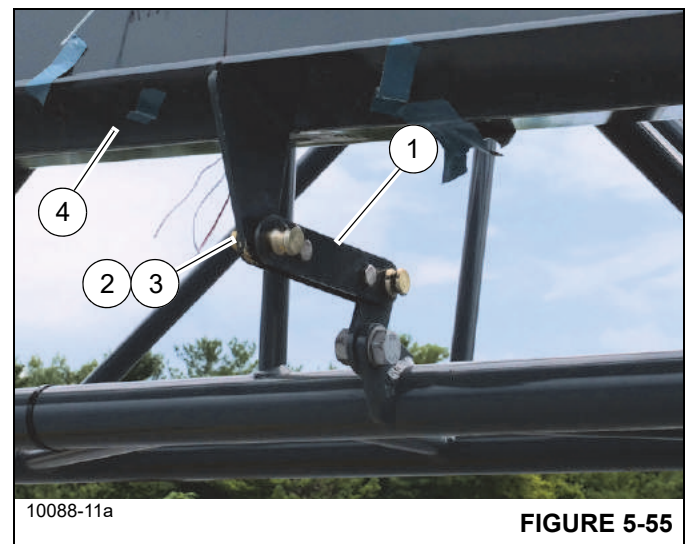

FIGURE 5-55
1. Make sure the connecting link (1, Figure 5-55) is in place that connects the fly section to the boom extension base section together.
4. Detach the fly section from the boom extension base section by removing the retaining clip (2, Figure 5-55) and pin (3) securing the connecting link (1) to the boom extension fly section (4).